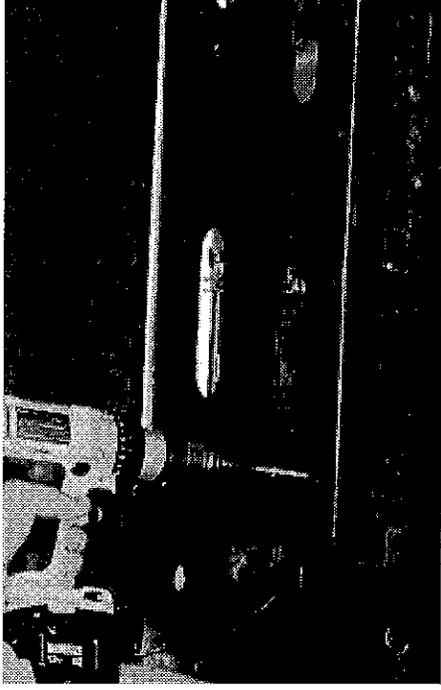

Figure 5.9 Unscrewing Burner Pan
- Remove four screws in burner pan. See Figure 5.9.